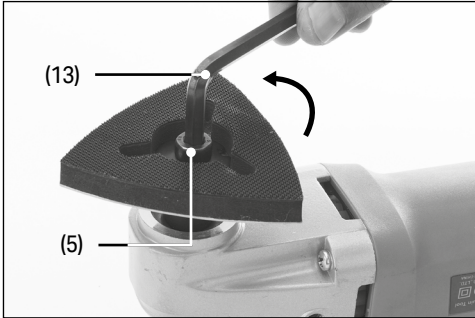
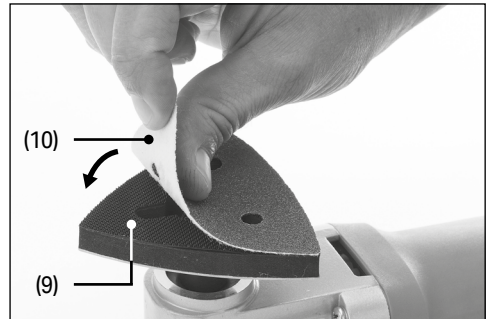

Fig. 5
Fig. 9
6.2 Fitting the Sanding Accessories – Fig.5 -Fig.9